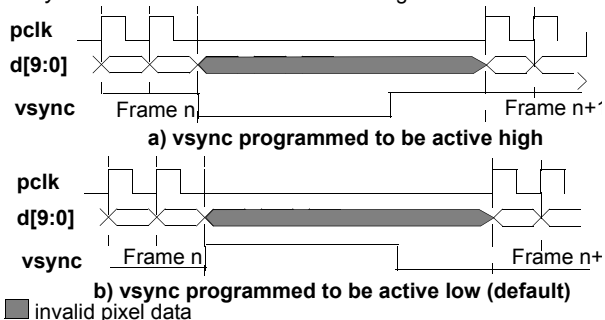

Figure 37. *vsync* in Pulse Mode
- Pulse mode should be used when the pixel clock, *pclk*, is programmed to operate in *data ready mode*. In pulse mode the *vsync* output pin will produce a pulse at the end of each frame. The width of the pulse will be a minimum of four *hclk* cycles and its polarity can be programmed as shown in Figure 37. The *vsync* level is always synchronized to the active edge of *pclk*. The *vsync* pin is put into pulse mode by setting the *VsyncMode* bit of the *DVBUSCONFIG1* register to a logic 1. The active level of the *vsync* pulse is programmed using the *VsyncPol* bit of the *DVBUSCONFIG1* register.